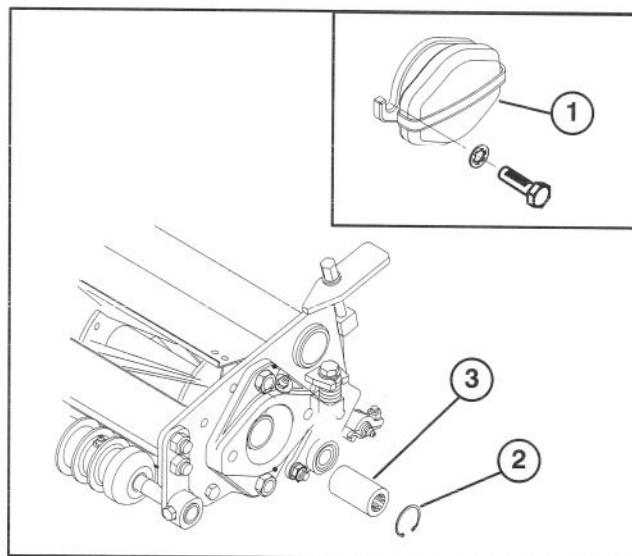

Figure 5
INSTALL CUTTING UNITS (Fig. 5–7)
- A. Remove (2) capscrews and lockwashers securing counter weight to right end of cutting unit. Remove counter weight (Fig. 5, inset).